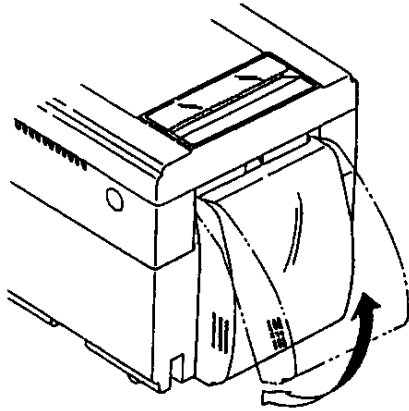

Fig. 9
- 1) Attaching and removing the paper cover and the stacker as shown in Fig. 9, 10.